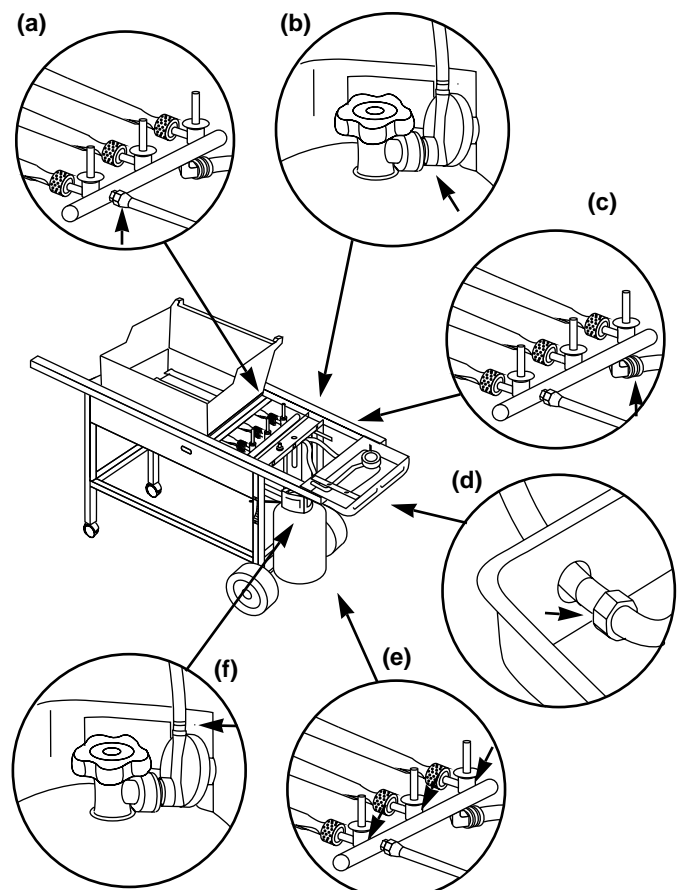

Figure 21
- Hose to manifold connection. Figure 21 (a).
- Regulator to tank connection. Figure 21 (b).
- Manifold to side burner hose connection. Figure 21 (c).
- Side burner hose to side burner connection. Figure 21 (d).
- Valves to manifold connections. Figure 21 (e).
- Hose to regulator connection. Figure 21 (f).